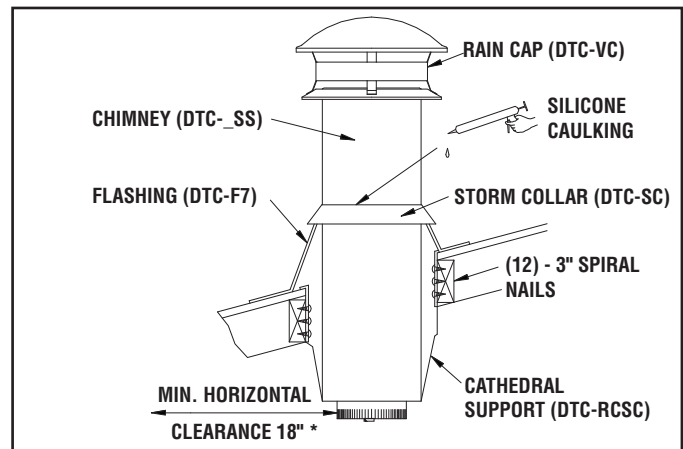

Figure 11
Using a level, make sure the support is vertical. If the support extends above the roof, cut it flush with the top of the roof. Nail the support to the framed opening using (12) 3" spiral nails (Figure 11).